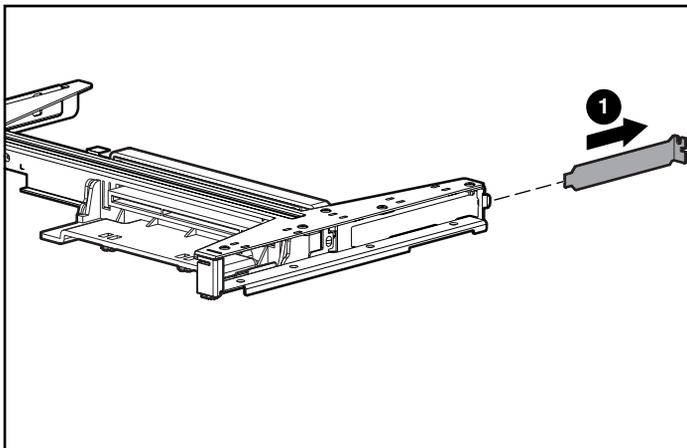

Figure 3-22. Removing the slot cover from expansion slot 2
7. To remove the cover in expansion slot 2 (Figure 3-22)
- b. Remove the expansion slot cover ❶.